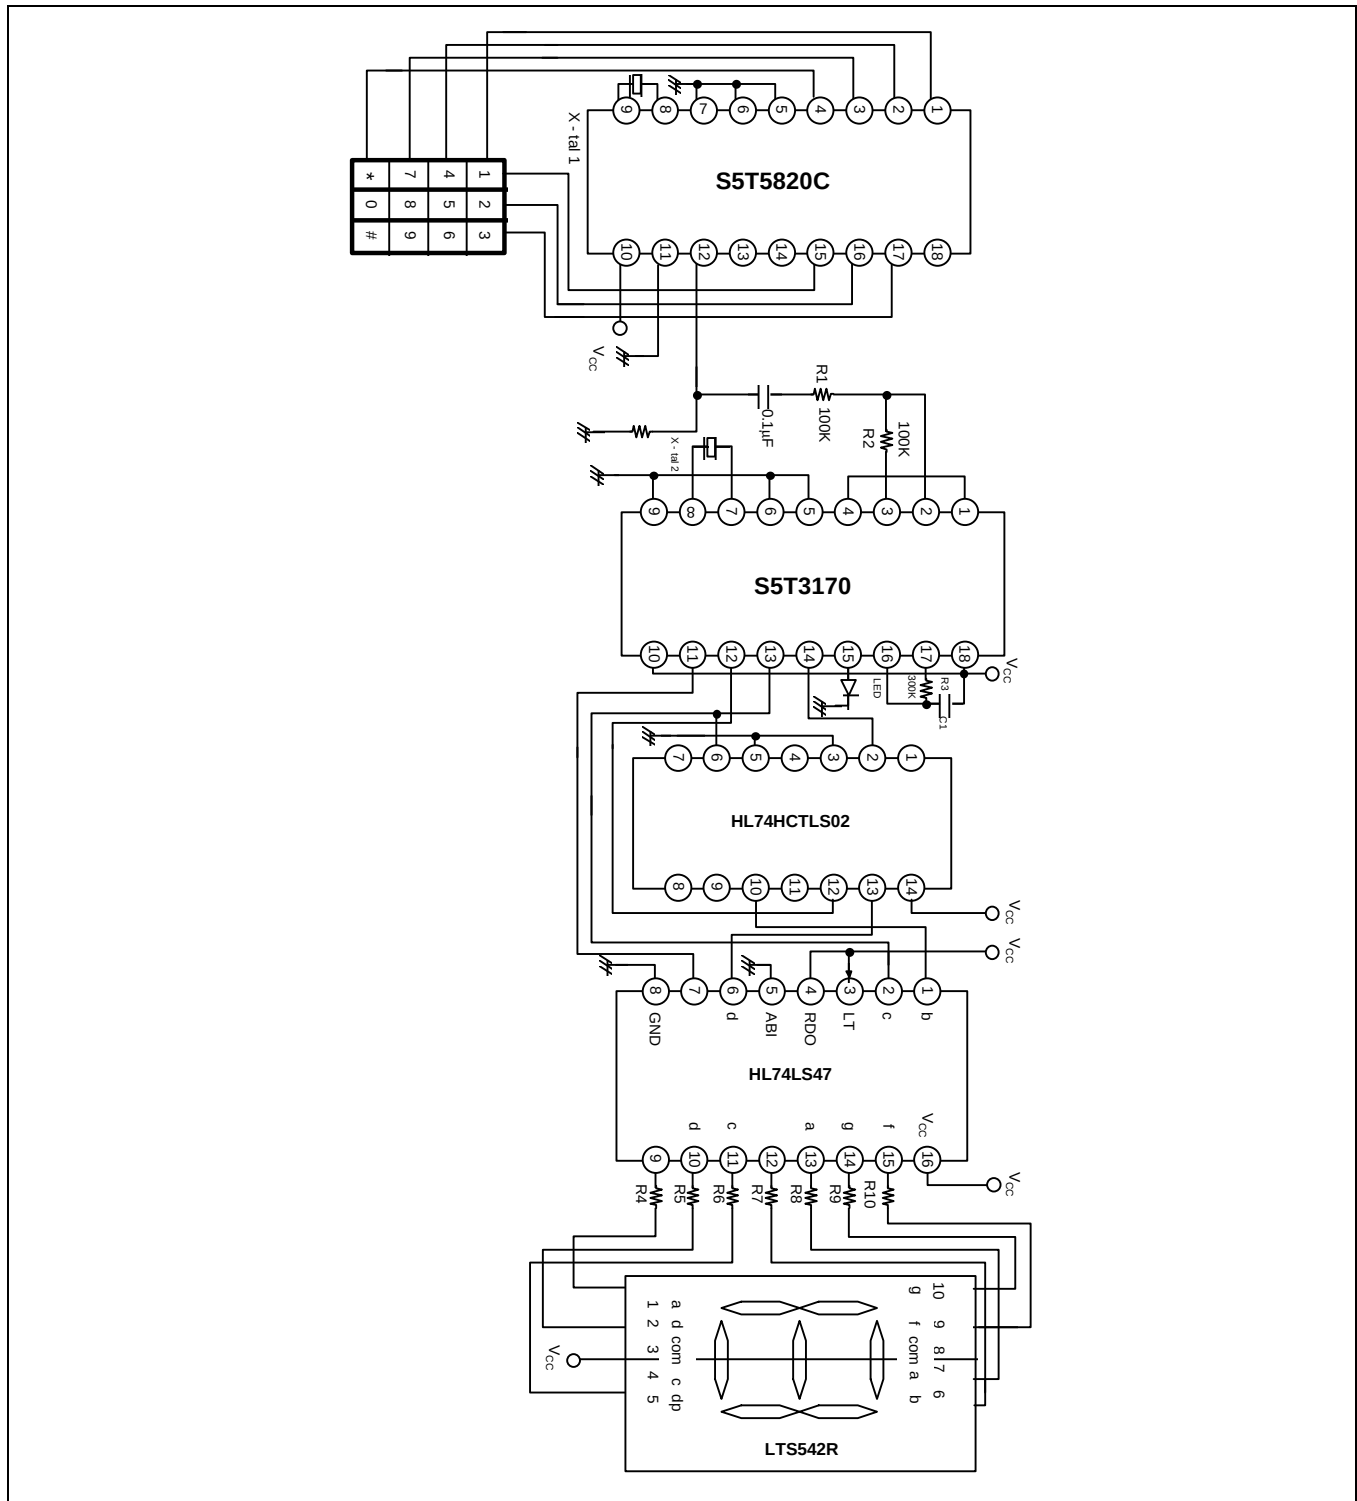

Figure 1. Test Circuit
12. Referenced to Fig. 1 Input DTMF tone level at -28dBm.